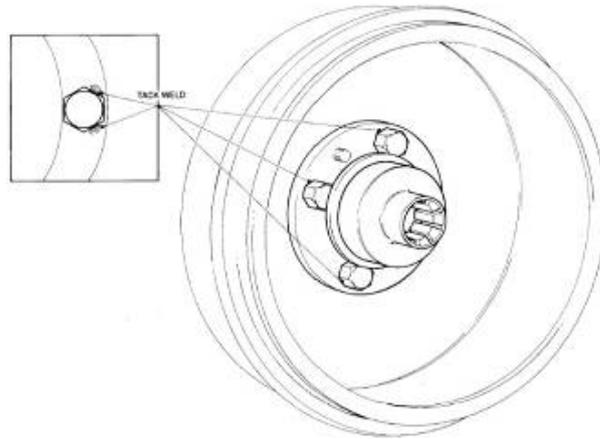

Figure 84 Welding Points For Propeller Shaft Bolts
- c. Remove the faulty bolts and tack weld the heads of the replacement bolts using an electronic welder (Figure 84).